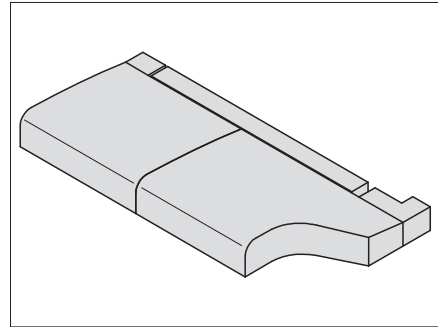
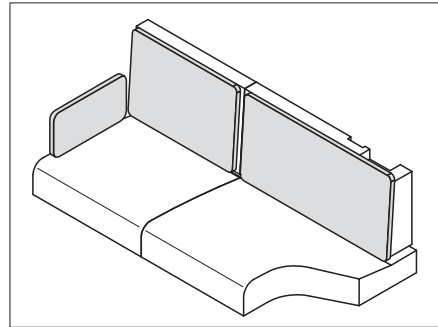

Fig. 213 Positioning seat cushions
Fig. 215 Cushion for back cushions
- Lay on the seat, backrest and additional cushions as shown in Fig. 213 to Fig. 215.